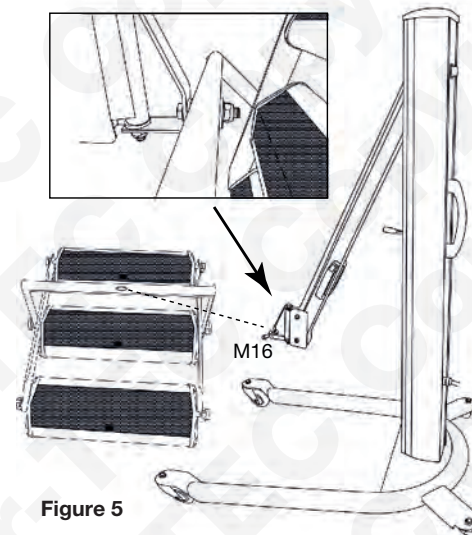

Figure 5
6. Refer to **Figure 5**: fasten the assembled lamp unit to the lamp unit supporting arm with the M16 setscrew, washer and locknut.